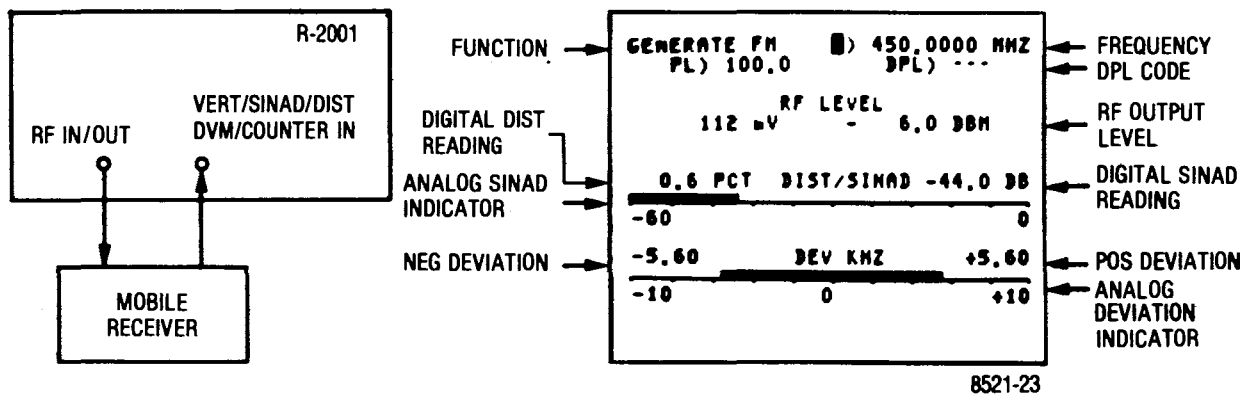

Figure 4-8. Test Setup for FM Receiver Sensitivity Using Generator and SINAD Meter with CRT Display
- a. FM Mobile radio setup for receiver sensitivity using Generator and SINAD meter (Figure 4-8).